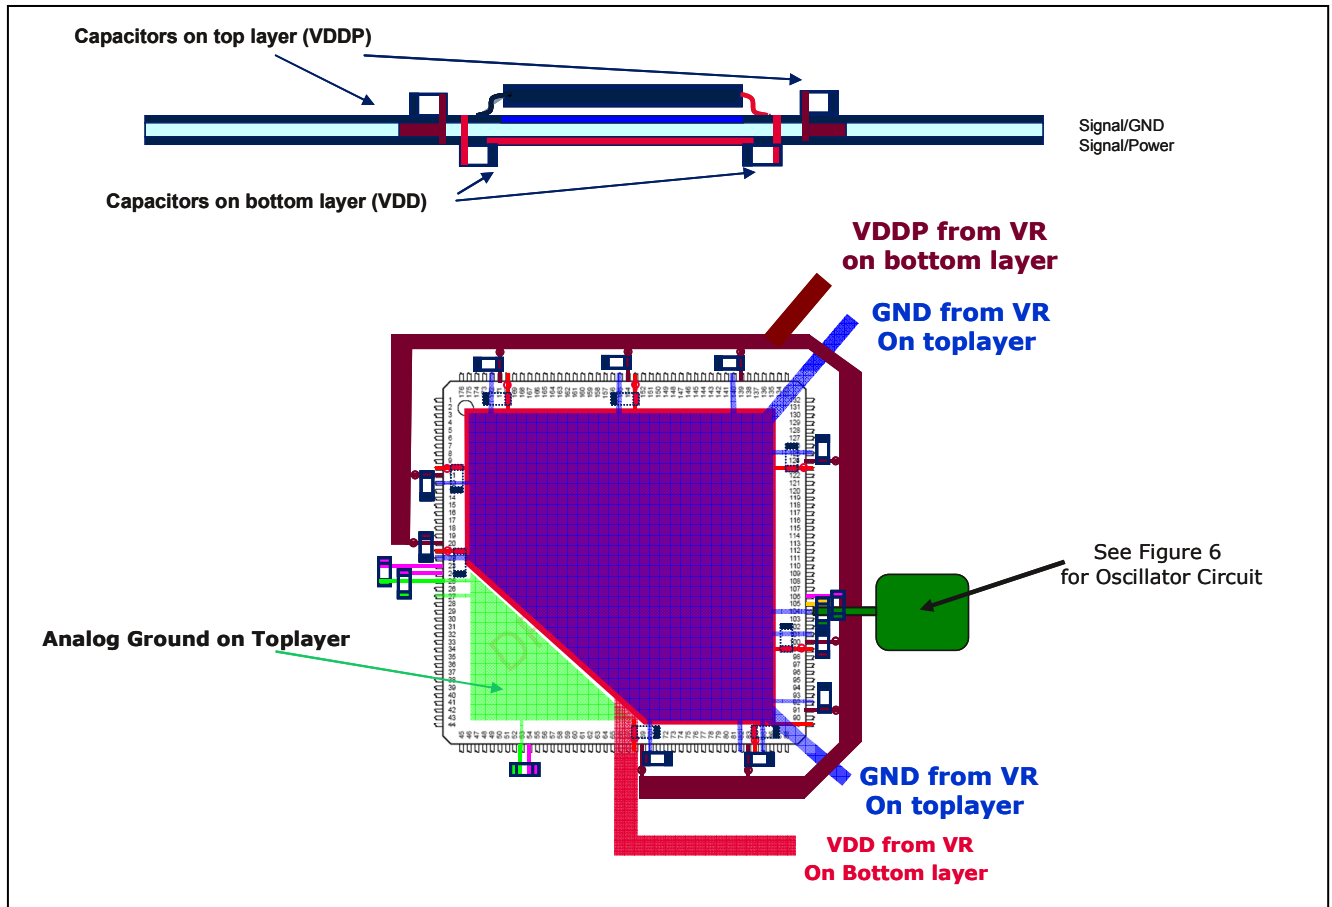

Figure 3 Layout example for decoupling of TC1767 (LQFP-176)
- The two supply domains VDD and VDDP of TC1767 should be decoupled separately (see decoupling layout example in Figure 3).
A power-plane/grounding concept example for a 32-bit microcontroller like TC1767 with LQFP-176 package can be seen in Figure 3. Alternative implementations are also acceptable and must be evaluated within application by customer.